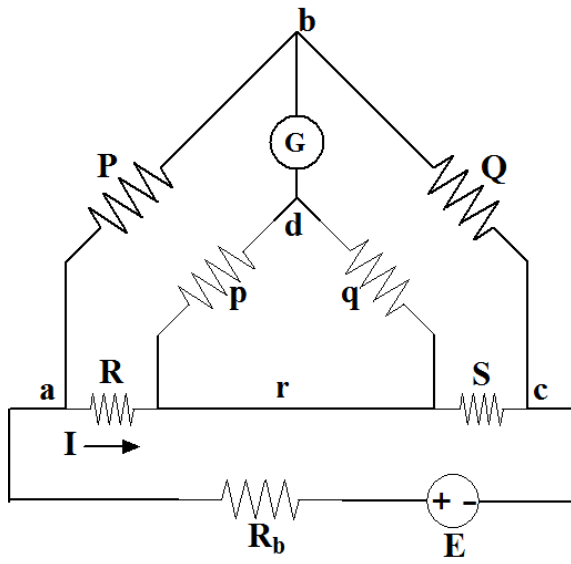
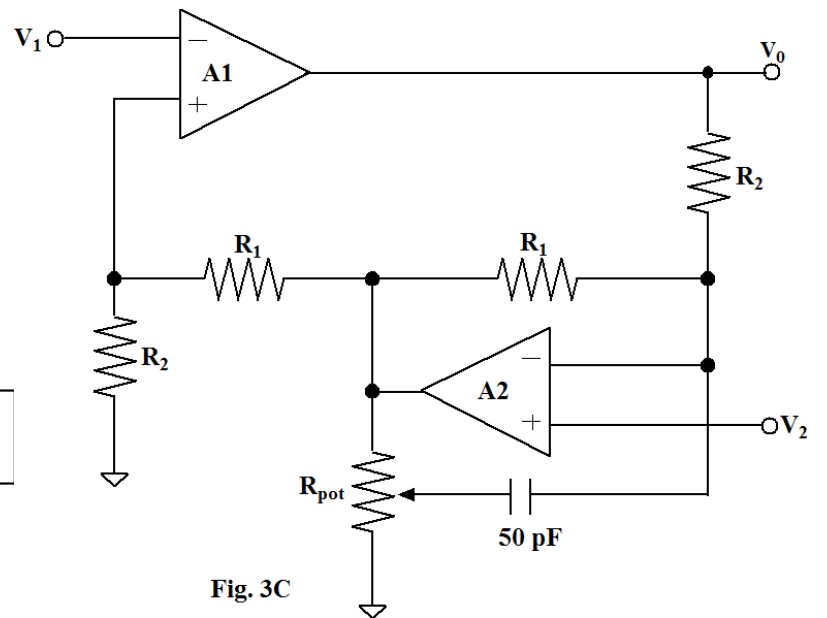
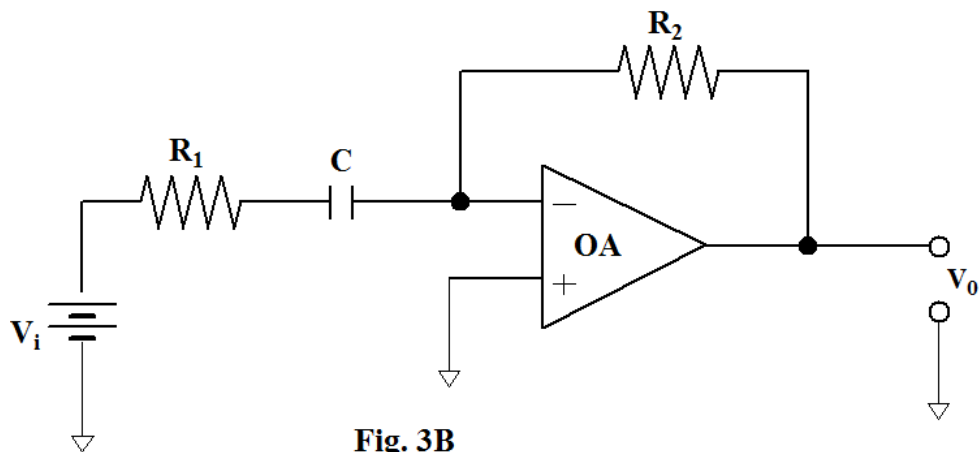
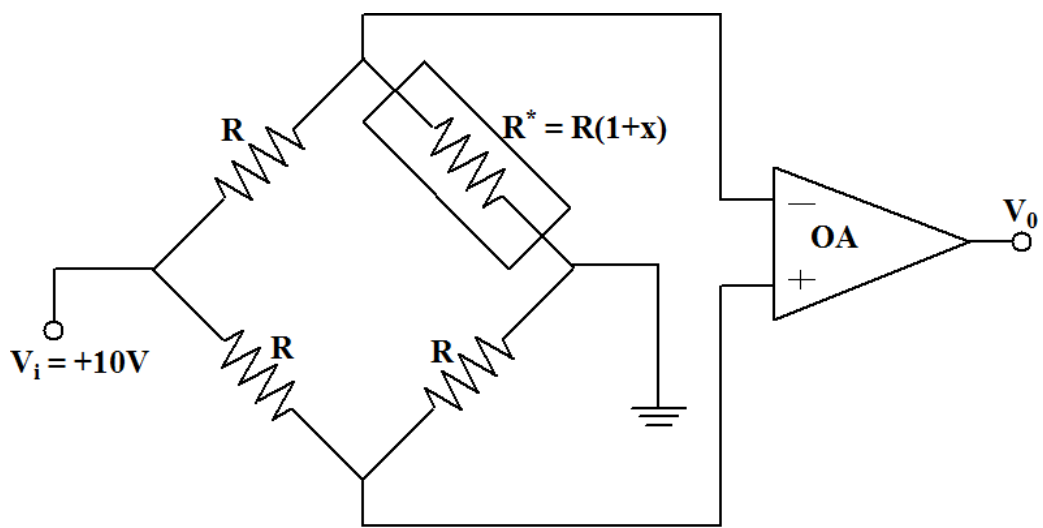

Fig. 2B
Fig. 3C
Fig. 3B
Fig. 4A
b) A magnetic source at a distance 1 m from the shield (04)
- 2A.** In an electrodynamic instrument the total resistance of voltage coil circuit is $8.2K\Omega$ and mutual inductance changes from $-173\mu H$ at zero deflection to $+175\mu H$ at full scale deflection of 95° . If 100V potential difference is applied across voltage circuit, current of 3A at a power factor of 0.75 is passed through current coil. What will be the deflection if the spring constant is $4.63 \times 10^{-6} N - m/rad$. (03)
- 2B.** The ratio arms of a Kelvin's Double Bridge (KDB) are 1000Ω each, the galvanometer resistance $R_g = 500 \Omega$, its sensitivity $k=200 mm/\mu A$, $R=0.1002 \Omega$ and $S=0.1 \Omega$. A DC of 10 A is passed through R & S from a 2.2 V battery in series with a rheostat as shown in **Fig. 2B**. The link resistance is negligible.
c) Obtain the total internal resistance of the battery circuit. (03)
- 2C.** Define Piezo-electric effect. With a neat diagram, derive and prove that the output voltage of a piezoelectric element is dependent on the product of its voltage sensitivity, its thickness and the applied pressure. (04)
- 3A.** Mention any four main functions of signal conditioning circuit. Design a Signal Conditioning circuit using OPAMP for interfacing AD590 IC temperature transducer to produce 0V at 0°C and 10V at 100°C. The rate of conversion of AD590 is $1\mu\text{A}/^\circ\text{K}$. (03)
- 3B.** Inserting a resistance R_3 in parallel with capacitance C in the high pass filter shown in **Fig. 3B** turns it into a circuit known as zero-pole circuit that finds applications in control.
- Sketch its magnitude plot highlighting the pole and zero frequencies. (03)
- 3C.** A dual OPAMP instrumentation amplifier shown in **Fig. 3C** offers an advantage in that a high CMRR can be obtained via appropriate adjustment of the pot. Derive its mathematical model and prove that:
- $$V_0 = \left(1 + \frac{R_2}{R_1}\right)(V_2 - V_1) \quad (04)$$
- 4A.** The unbalanced voltage of a resistance bridge is to be amplified 200 times using a differential amplifier. The configuration is shown in **Fig.4A** with $R = 1K\Omega$ and $x = 2 \times 10^{-3}$. Two amplifiers are available: one with differential gain $A_d = 200$ and CMRR= 80 dB and the other with differential gain $A_d = 200$ and CMRR= 60dB. Find the values of V_0 for both the cases and compute errors. Further, draw relevant conclusions so as to select the best amplifier. (03)
- 4B.** With a neat diagram, explain the various elements of a Distributed control system (DCS). Also list out the advantages of using DCS for process control. (03)
- Output voltage (04)
- 5A.** With the help of neat schematic describe the working of R-2R Ladder Network DAC. Prove that for digital input of 0100 equivalent analog voltage is $(-V_s/4)$ with appropriate circuit connections. Assume V_s as reference/source voltage. (03)
- 5B.** With an appropriate schematic of a 10 bit successive approximation A/D converter employing SAR, obtain the equivalent binary output for an analog voltage input of 0.6 V. Consider the reference voltage to be 1 V. Highlight all the steps involved in this A/D conversion process. (03)
- 5C.** With the help of neat block diagram explain in detail, the working of various stages in an ECG measuring system resulting in an accurate representation of the health of a patient's heart (04)